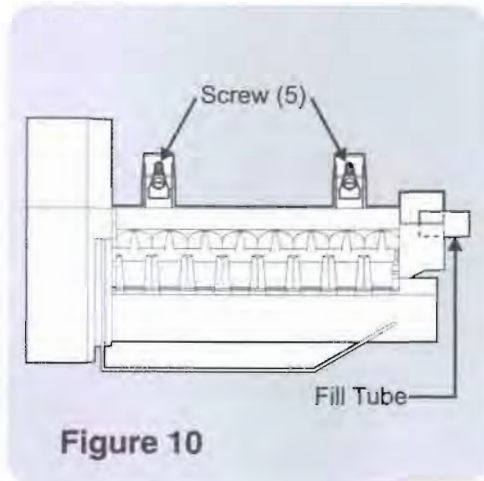

Figure 10
- Connect wiring harness into connector mounted on back freezer panel, just to the left of where the water inlet tube comes through, then mount Ice Maker to the two screws (5) you started earlier from Step 12. (See figure 10.) Tighten screws. Make sure water inlet tube (11) is setting inside fill cup.
14. Adjust leveling bracket (7) on Ice Maker (1). When the gap between freezer wall and Ice Maker is the same at top and bottom, then Ice Maker is level. Tighten screw (6) when level.